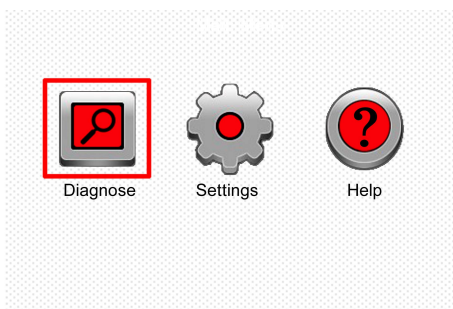

Figure 3-1
- 5) After finishing, the system will start initializing. After initialization, the system will enter the main menu interface. See Fig. 3-1.